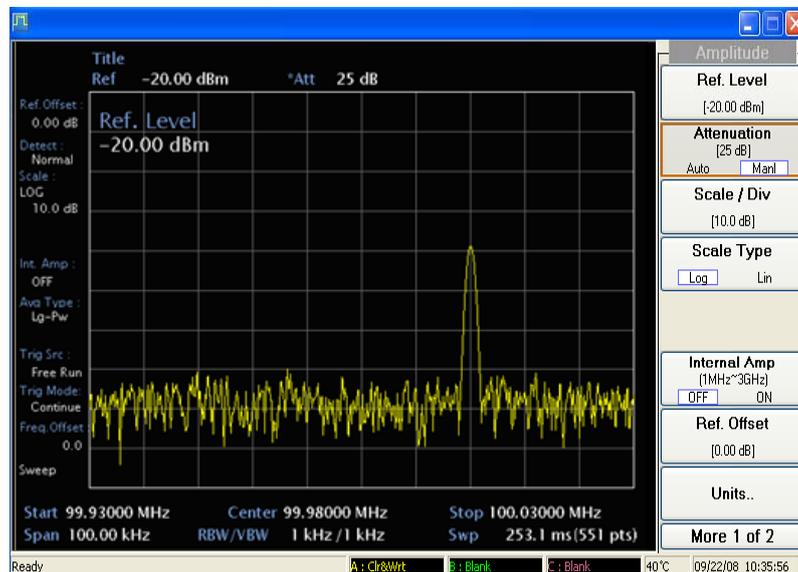

Fig. A-19 Setting the input attenuator
- 4 Set the reference level to -10 dBm by pressing [AMPL], [Ref Level] -10 dBm. See Fig. A-19. Note that if the signal is much higher than shown, adjust the input attenuator. In this example the input attenuation was set to 30 dB by pressing [Attenuation. Man] 30 dB.